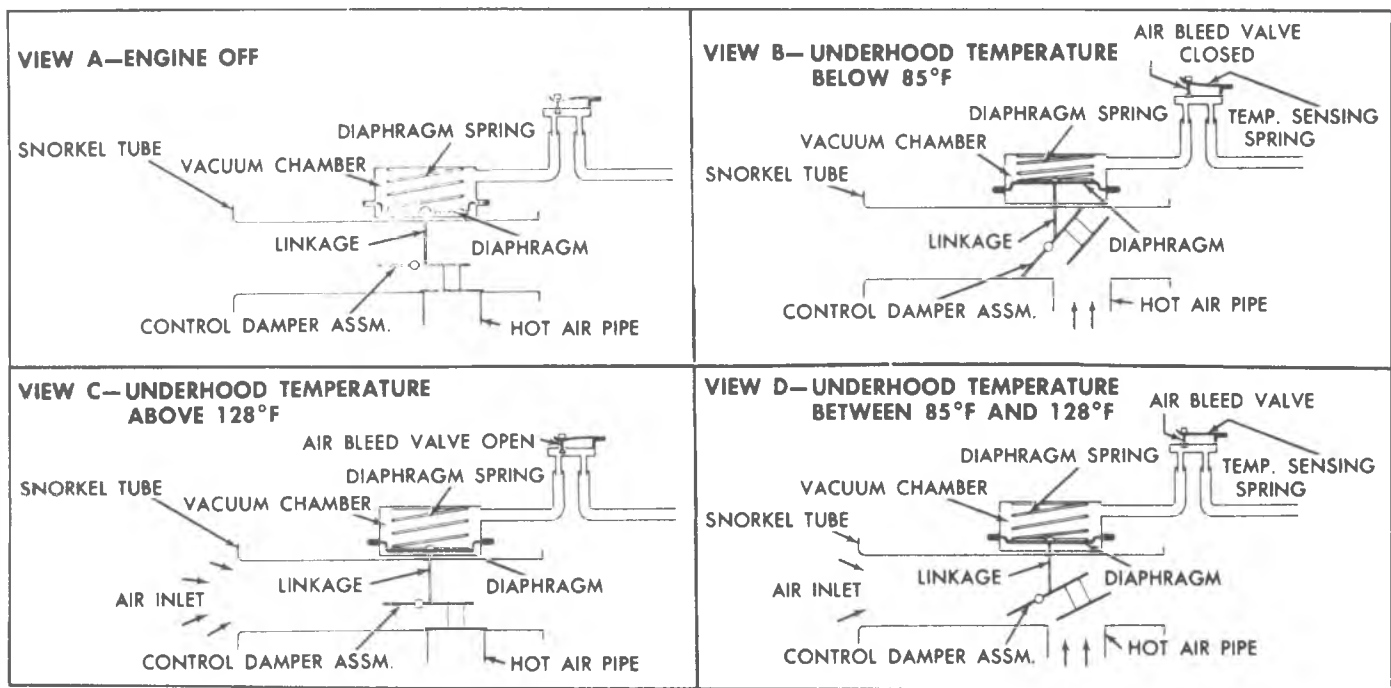

Fig. 68—Air Cleaner Operation
The air cleaner has an automatic air inlet temperature control device. Air temperature is automatically controlled by a thermostatic valve which selects warmed air from the heat stove and/or cooler air from the engine compartment or outside air inlet on some vehicles (Fig. 68).
2. With the engine "Off", observe damper door position through snorkel opening. Snorkel passage should be open. (fig. 68 view A) If not, check for binds in linkage.
85 °F, snorkel passage should be closed. (fig. 68 view B) When damper door begins to open snorkel passage, remove air cleaner cover and observe thermometer reading. It should be between 85 °F and 115 °F.